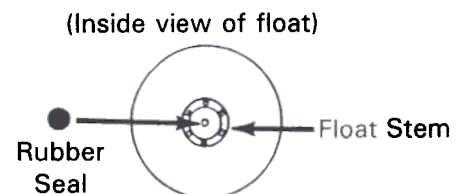

Figure 4
- Insure rubber seal is in place in the center of the float stem (See Figure 4). If the seal comes out, press it back in place in the recess of the stem.
- Replace the float cap (again, be certain the rubber seal, Figure 4, is in place).